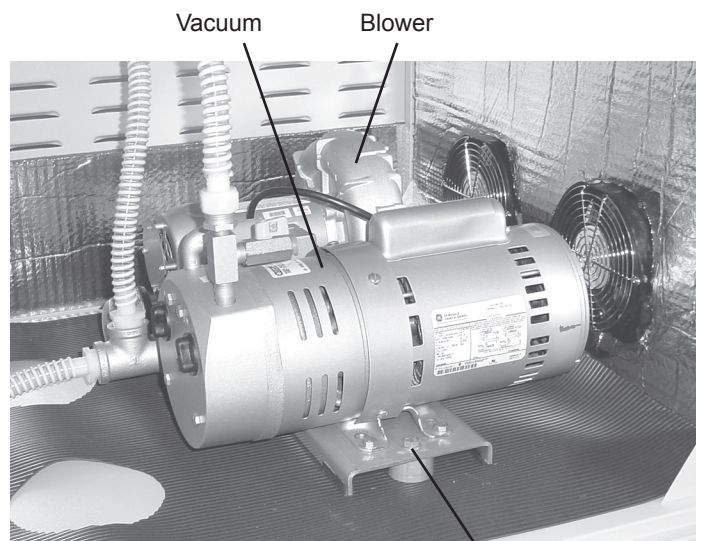

Fig 3
1. Unpackage and mount pump to the floor of the base. Orient the pump so that the blower is at the rear and the vacuum is toward the front of the base. Position the pump to the right side of the base aligning it with the mounting holes in the floor and fans as shown in Fig. 3. Insert mounting bolts and secure.